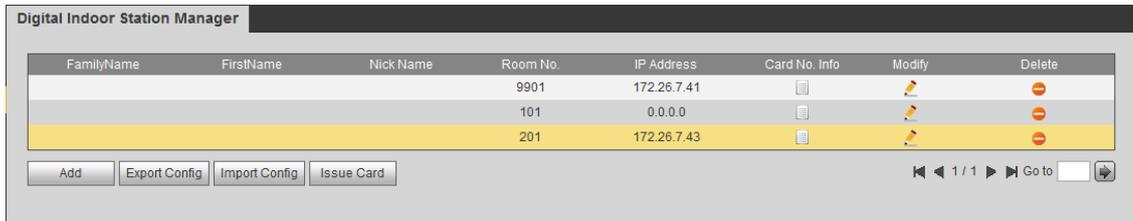

Figure 5-7
Step 12 Select “System Config > Digital Indoor Station Manager”. The system displays “Digital Indoor Station Manager” interface, as shown in Figure 5-7.